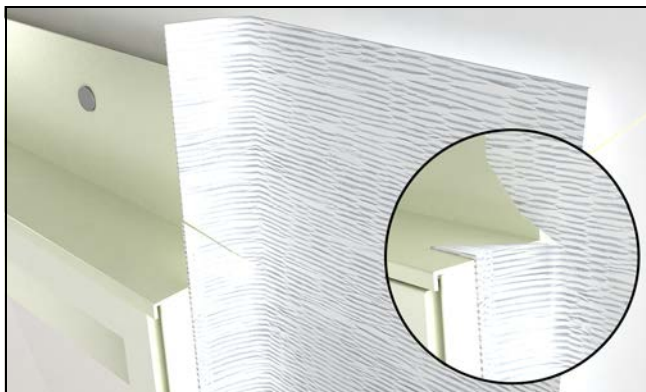

Figure 50
6. Lap vertical strips of adhesive flashing tape onto the unit and out over the WRB. Make small diagonal cuts at the head jamb as in Figure 50 to allow the membrane to fold back onto the exterior and frame.